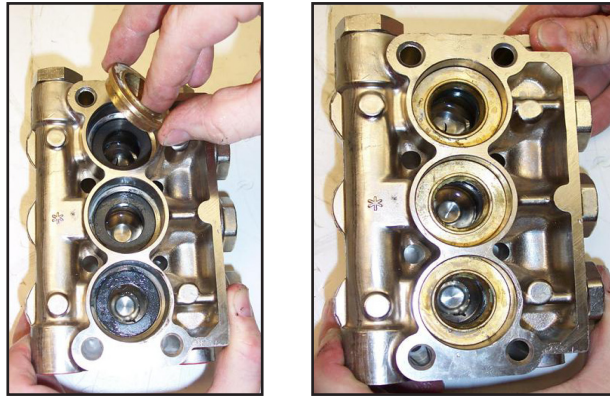

Figure 5-14. Install Retainers into Cavities
2. Press the new low pressure seal into the brass low pressure seal retainer and install a new O-ring on the outside (see Figure 5-14).